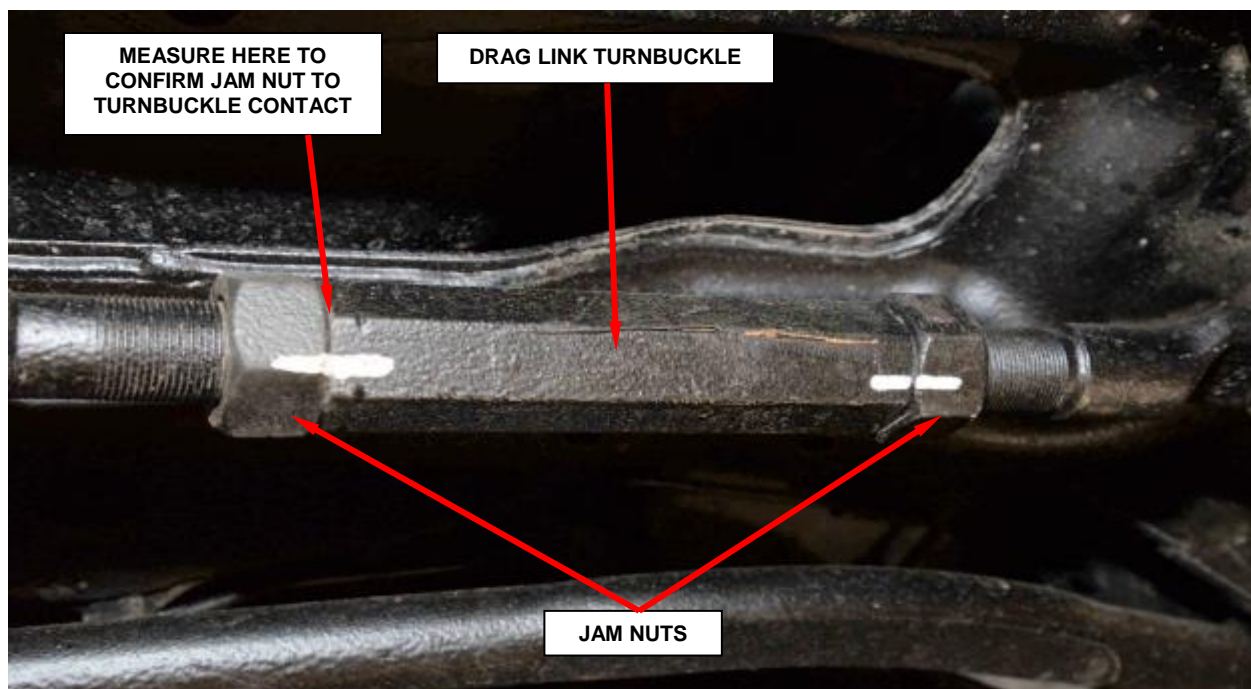

Figure 1 – Mark Jam Nuts and Turnbuckle
2. Using a .020” feeler gauge, confirm jam nut contact to drag link turnbuckle. If no contact is noted, proceed to section **B. Measure Drag Link Assembly Threads** (Figure 1).
3. Using a paint pen or equivalent, mark both jam nuts and turnbuckle with lines (Figure 1).